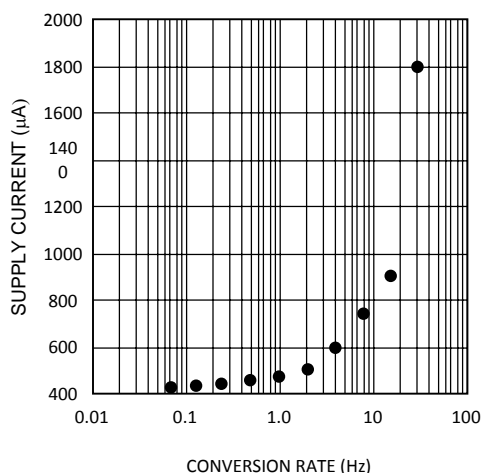

Figure 3. Conversion Rate Effect on Power Supply Current
The LM89 takes approximately 31.25 ms to convert the Local Temperature (LT), Remote Temperature (RT), and to update all of its registers. Only during the conversion process the busy bit (D7) in the Status register (02h) is high. These conversions are addressed in a round robin sequence. The conversion rate may be modified by the Conversion Rate Register (04h). When the conversion rate is modified a delay is inserted between conversions, the actual conversion time remains at 31.25ms. Different conversion rates will cause the LM89 to draw different amounts of supply current as shown in Figure 3.